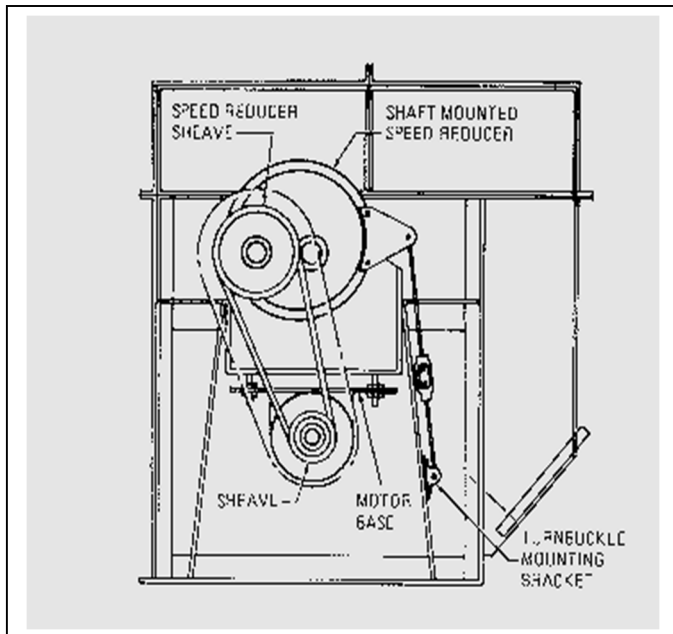

Fig. 601-3
1. Install motor mounting bracket on back side of reducer, so that when viewing input shaft it is level with and to the left of the output shaft and motor mounting bracket extends downward. Larger overhang of the bracket must be toward input shaft face of reducer, see Fig. 601-3.